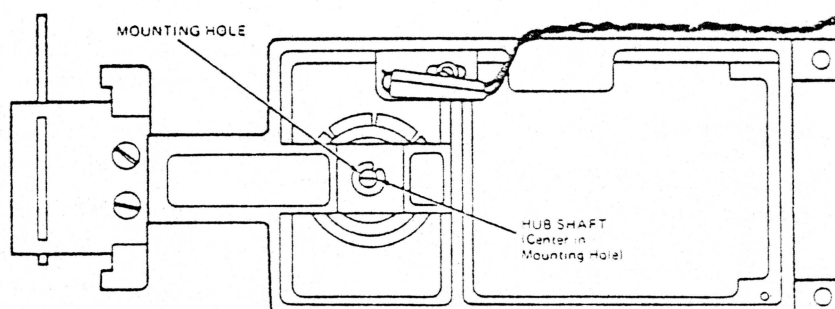

FIGURE 3. HUB FRAME ADJUSTMENT
- c. Position the hub frame until the hub shaft is centered in its mounting hole in the hub frame. Reference figure 3. Now tighten the mounting screws for the hub frame pivot springs.
- d. When installing a new assembly, insure the detector mounting block is flush against the side of the hub frame. Reference figure 3.